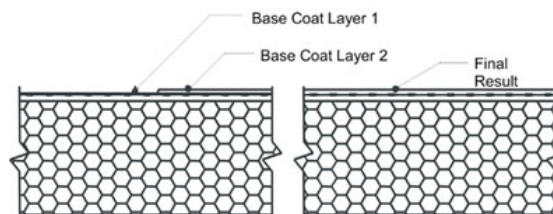

Figure 22
- 3) Allow the base coat mixture to take up until firm to the touch. Trowel a second tight coat of the base coat mixture over the first coat to **fully cover** the reinforcing mesh - Figure 22. The result should be such that the reinforcing mesh is approximately centered within the base coat thickness. Do not allow the first pass to completely dry prior to the second pass application or an excessive amount of base coat mixture will be necessary to fully coat the wall surface.